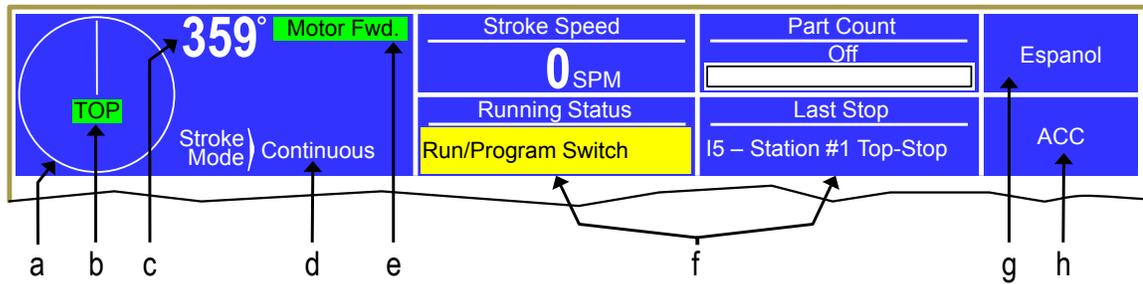

Figure 3: Operator Terminal Top Info Area
The top area of the operator terminal is used to display certain critical information and provide keys that are present regardless of what screen is being displayed. The areas are (refer to Figure 3):
- a) *Graphical Display of Crankshaft Angle*** For speeds below 70 SPM or so, this will show the crankshaft angle in either a “clock” format (this is the mode shown in Figure 3) or a “traveling dot” format. Press the screen inside the circle to switch between the formats (this can be done at any time, including while the press is in motion). Above 70 SPM, this will change to rotating arrows to indicate crankshaft motion.
Areas inside the white portion of the display are shown with a blue border if that area can be selected. For example, pressing the blue bordered jobs area or the blue bordered counters area will take you to screens related to jobs or counters, respectively. Areas usually displayed along the right side and bottom of the display provide softkeys which may be selected by pressing the field. For example, pressing the “Die Protection” bordered area in Figure 3 will select the die protection screen.